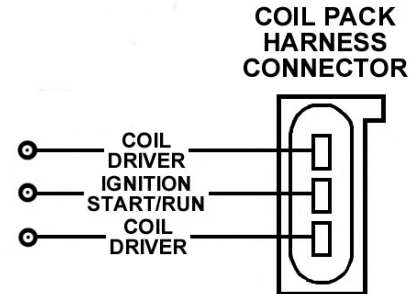

Figure 24—Coil Pack Harness—(1996-1999)
5. **COIL PACK**—The white wire of the RPM window switch needs to be connected to the negative side (coil driver) of one ignition coil. Choose the coil that best fits your wiring harness layout. Each ignition coil pack is supplied with a three-wire harness. Select one of the coil driver wires. This will be one of the outer wires of each harness. The positive ignition coil wire will be the middle wire on the coil pack. **Do not use this wire.** Use one of the T-tap terminals included and connect it to the negative coil wire. See Figure 24.